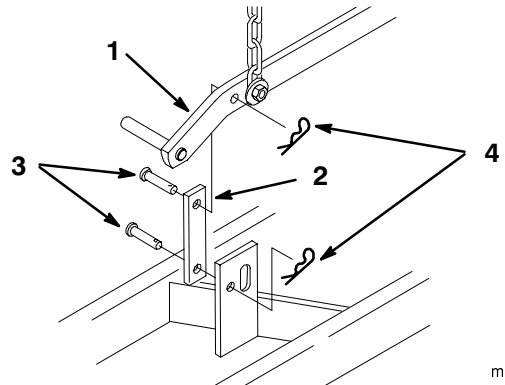

Figure 10
24. Attach the lift link between blade and tractor attachment lift hole, using two 3/8 x 7/8 in. (22 mm) clevis pins and medium hairpin cotters (Fig. 10).
5. Remove the two clevis pins and hairpin cotters securing the lift link between the blade and the tractor attachment lift (Fig. 10).